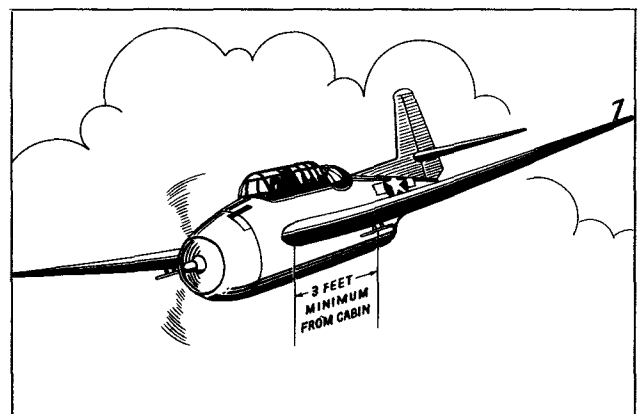

Figure 10—“Shielded” Antenna Mounting—Under-Wing Arrangement
e. “SHIELDED” ANTENNA ARRANGEMENT.— Another satisfactory antenna arrangement is to use a metal part of the airplane with electrical continuity (such as the fuselage, the motor mounts, etc.) as shielding between the transmitting and receiving antennas. (See Figure 10.) This type of antenna installation is suitable for mid-wing or high-wing airplanes. When this arrangement is used, little trouble is encountered from “feed through” between the two antennas.